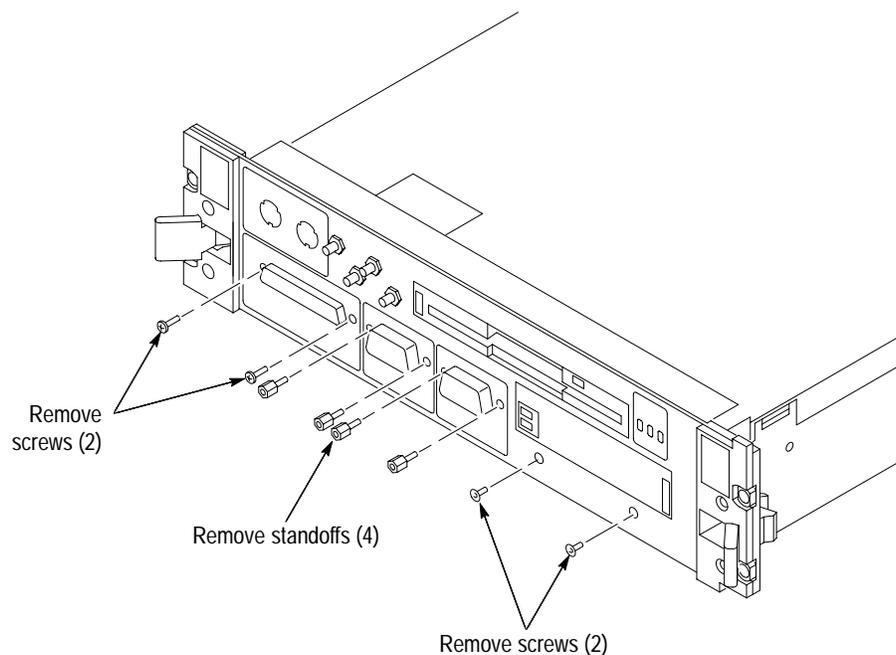

Figure 6: Front panel hardware removal
6. Remove the four 3/16 inch standoffs from the SVGA OUT and COM connectors. (See Figure 6.)
To install the subassembly into the enclosure refer to Figures 6 and 7 as you follow these steps: